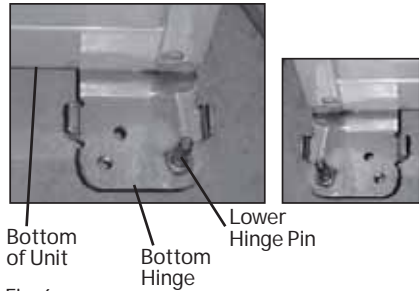
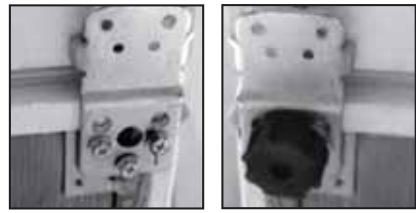

Fig. 6
Fig. 7
1. Remove the lower hinge pin from the lower hinge by turning counter clockwise. Move the pin to the opposite hole and tighten. (see Fig. 6 and Fig. 7)
4. Loosen the screws holding the bottom hinge and remove it. (see Fig. 7)